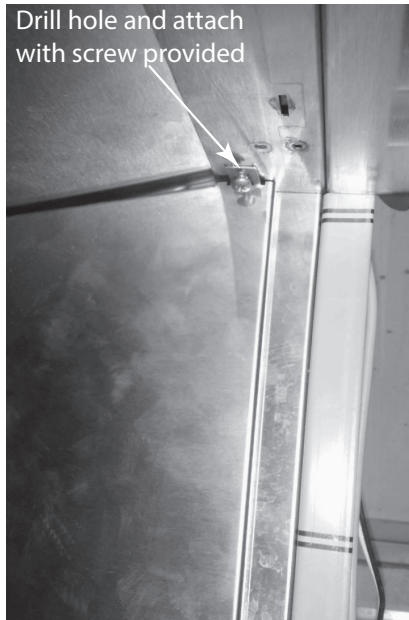

Figure 3 Screw Attachment
4. Attach with 2 screws provided. This will hold rear panel in place. See Figure 3 and 4.